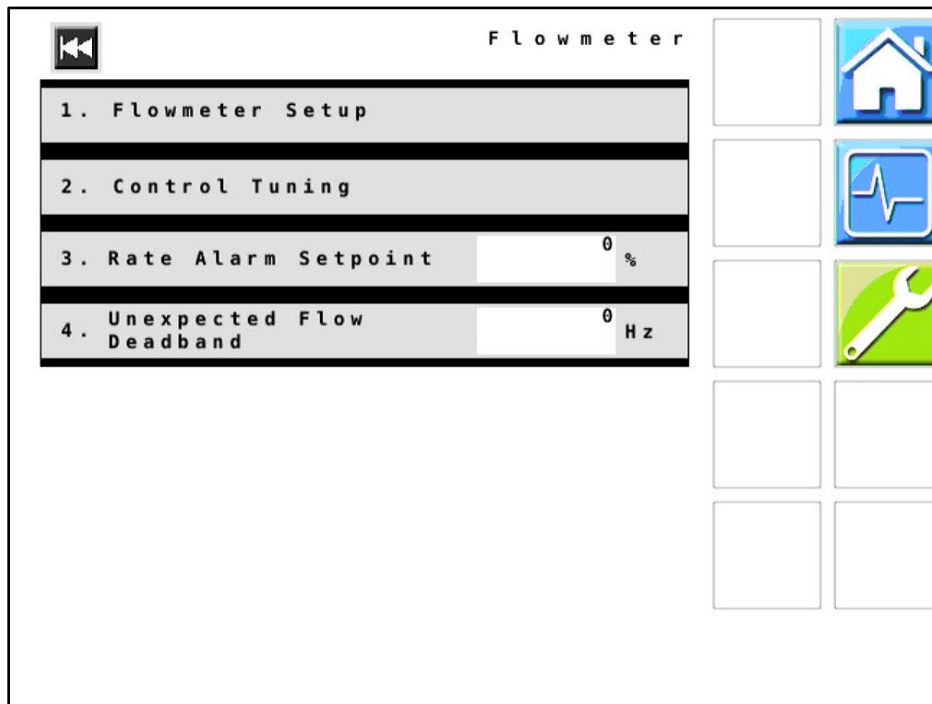

Figure 15 — Flowmeter
32. **Figure 15:** Verify that all values displayed on your unit match those shown here. Change values if necessary.